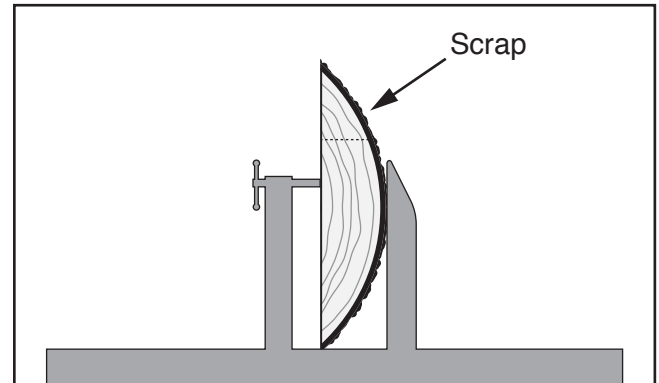

Figure 54. Scrap wood to be cut from slab.
18. Load slab from **Step 3** or **4** to track bed, using log supports to ensure slab is perpendicular to track (see **Figure 54**). Take care that log clamp is holding slab tight against supports.
19. Inspect end of slab and determine which portion is suitable for quartersawn lumber. Evaluate the width of the resulting lumber, as well as the angle of the grain. Cut slab where quartersawn quality wood begins (see **Figure 54**).